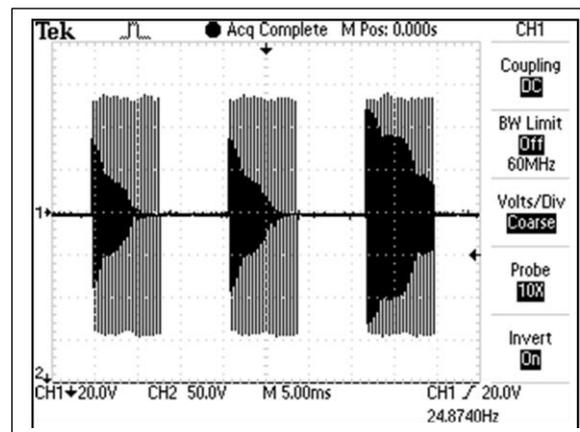

Figure 5.6
B. Russian- Figure 5.6 (Factory Default Setting)